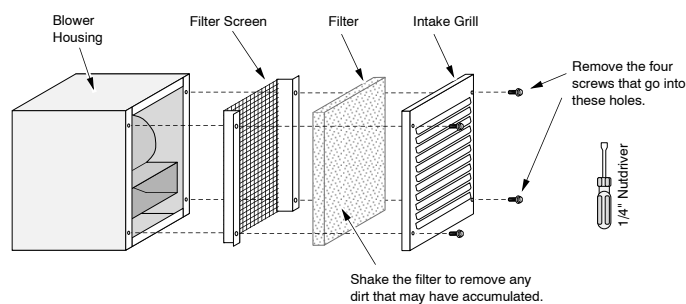

Figure 18
- The blower utilizes a filter that requires periodic cleaning (see Figure 18). Show the homeowner the blower location and inform them of the need to clean periodically.